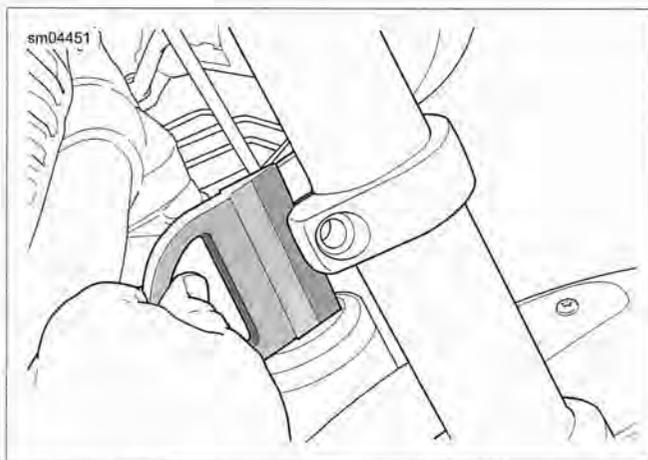

Figure 2-145. Insert Triple Tree Wedge (typical)
4. See Figure 2-145. Remove upper and lower fork bracket pinch bolts.